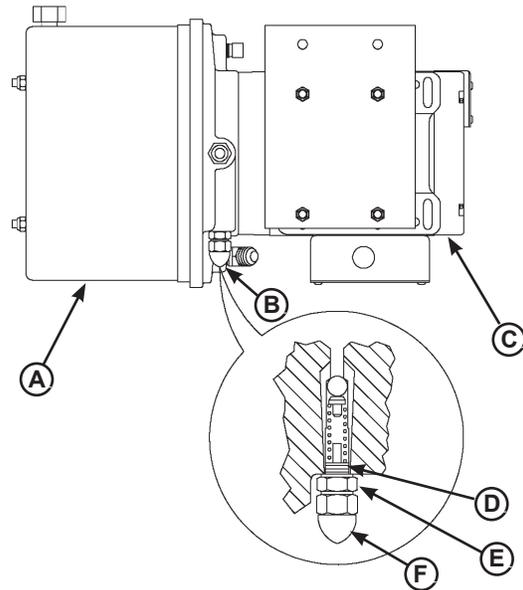

Figure 29
4. Remove acorn nut (F). See Figure 29.
5. Loosen jam nut (E).
6. Adjust hex adjusting screw (D) as follows: